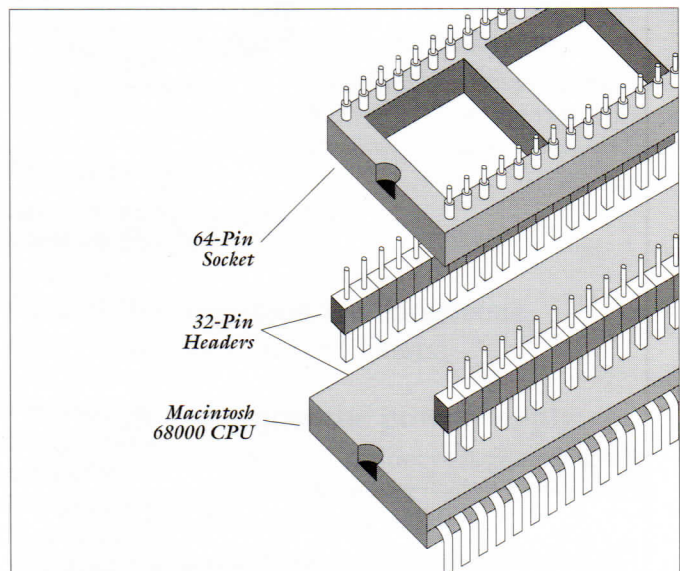

Figure 11 : Exploded view of the pin mount
1. You must solder header-strips onto the pins of the Macintosh CPU. Two 32-pin header strips are supplied, mounted under a 64-pin socket as shown in Figure 11. The 64-pin socket is only used as a carrier for the header strips to simplify the soldering procedure — once you are done, discard the socket.